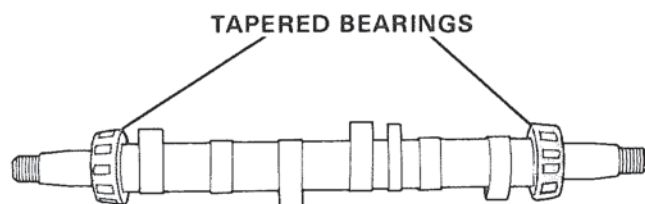

Figure 39. Camshaft.
1. Check camshaft, especially cam surfaces, keyway for wear or damage. Figure 39.